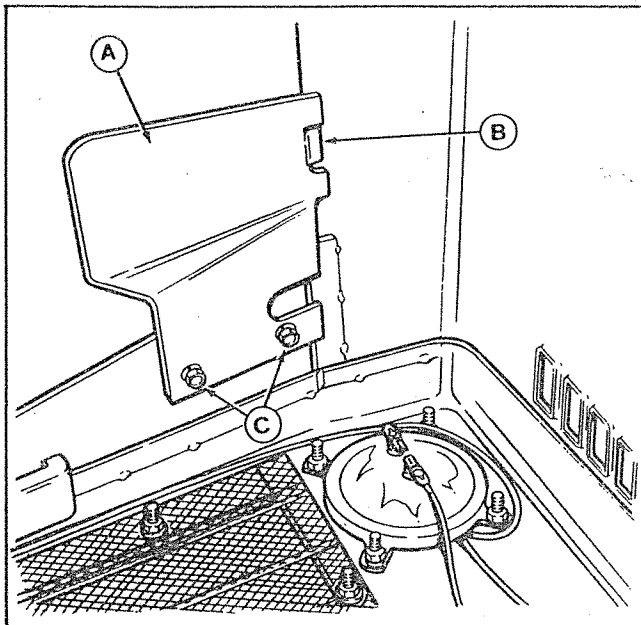

Figure 24. Deflector Installed (Later Model Tractor)
2. Install the deflector as shown in figure 24. Install the capscrews from the outside. The two spacers are between hood and deflector. Notice that the clip on top of the deflector does not engage the hood. Close the hood. There should be about 1/8" clearance between edge of deflector and air cleaner as shown in figure 23.